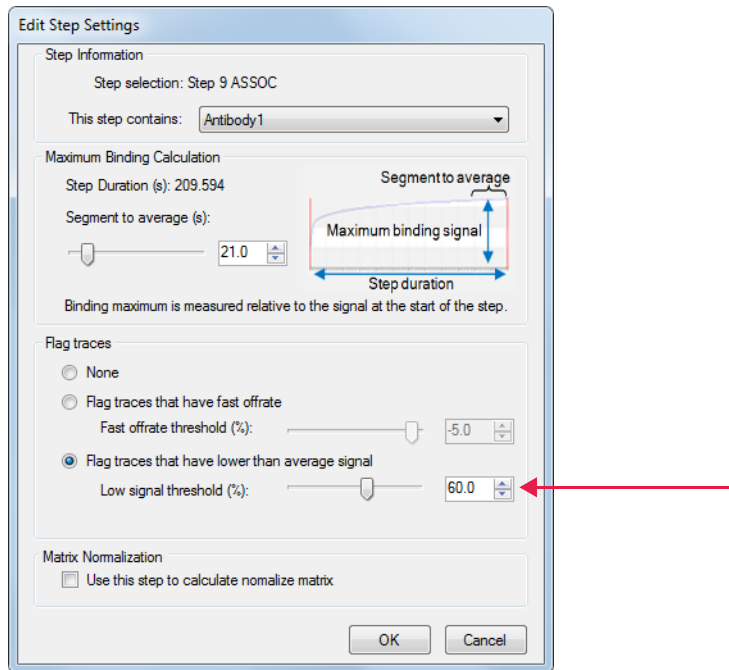

Figure 7-29: Edit Step Settings
- Click **Edit**. The Edit Step Setting box displays (Figure 7-29):